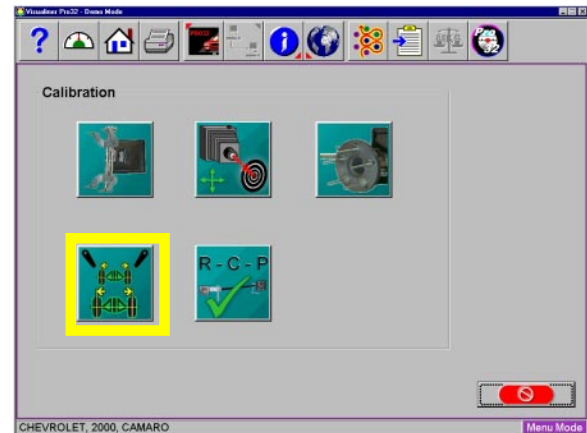

Figure 5-16
1. From the calibration menu single click on the “Camera Pod Rotation” icon. (Figure 5-16)